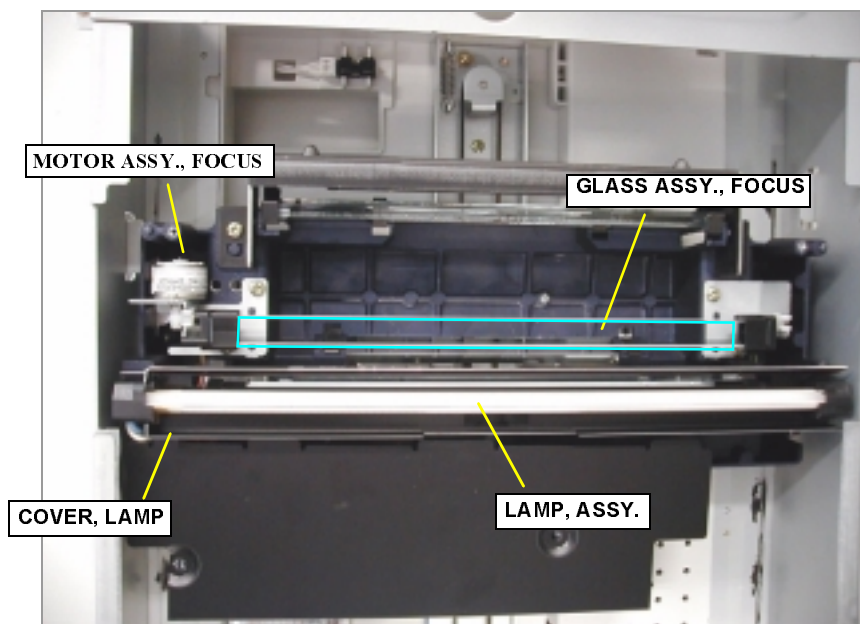

Figure 4-3. “GLASS ASSEMBLY, FOCUS” Removal (1)
3. Remove “COVER, LAMP”. (See Figure 4-3.)